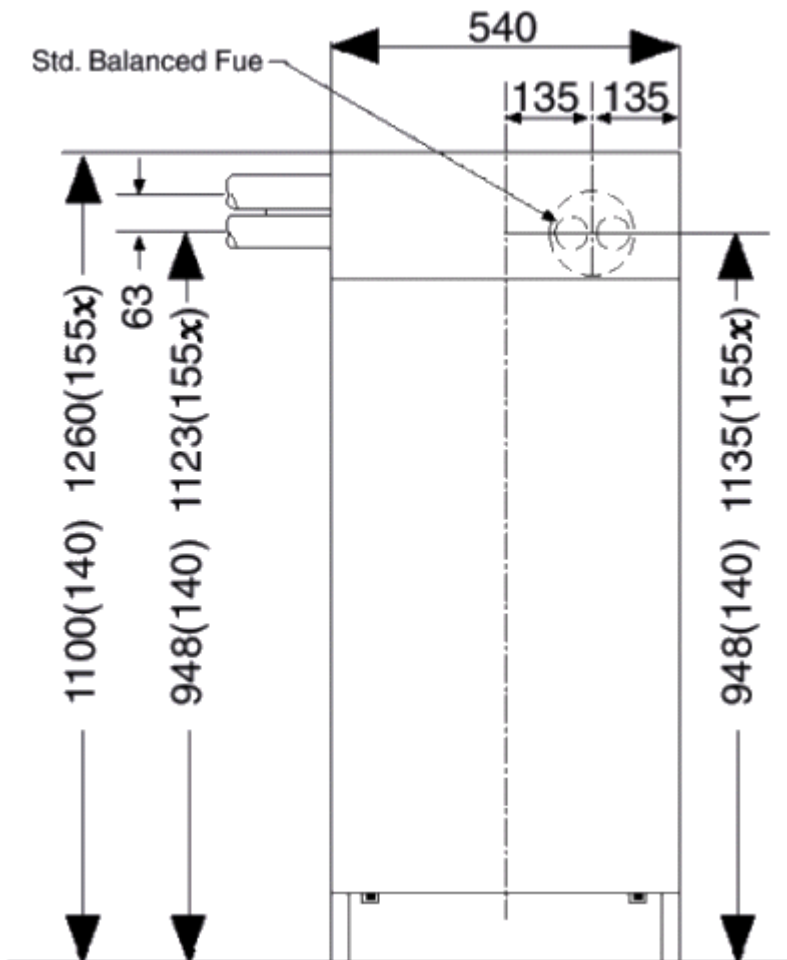

Fig. 9.3 View on front of boiler
- a Mark off the centre of the 140mm (5 1/2 in) diameter hole 2 as shown in Fig.9.3 and core drill. If the wall is clad with a combustible material a 25mm (1in) wide area around the flue liner must be removed. Measure the wall thickness and cut the liner to this length. Cut opposite end to lugs.